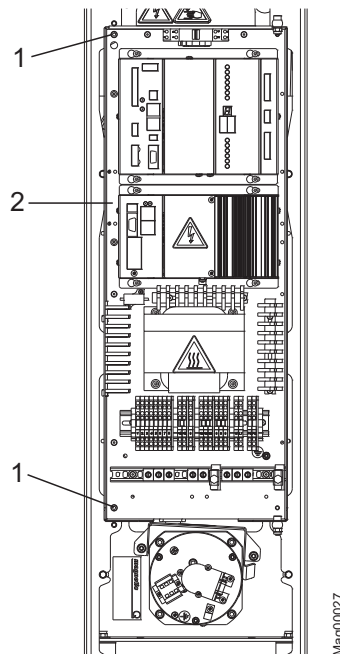

Fig. 33: Mounting panel of the left end housing
11. Fix mounting plate. Refer to Page 94, Fig. 33.